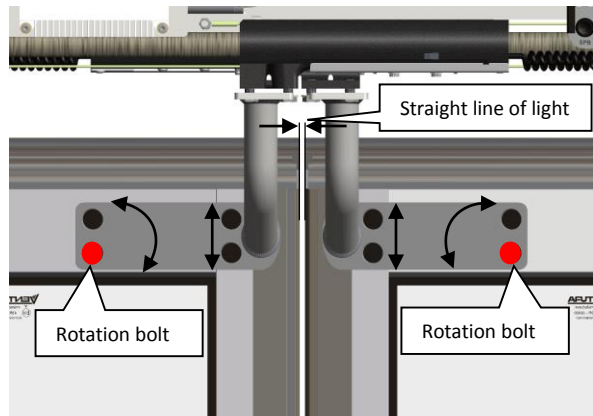

Figure 1.5: Gap between door leaves new style rail
5.	Check if there is an equal gap between the door leaves (without pressure, see Figure 1.5).